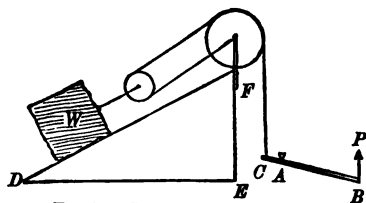

FIG. 46.—COMBINATION OF POWERS.
4. In the combination of lever, inclined plane, and pulley of Fig. 46, $AB = 10$ feet, $AC = 2$ feet, $DF = 20$ feet, $EF = 8$ feet, $P = 100$ pounds: how large a weight can be lifted?